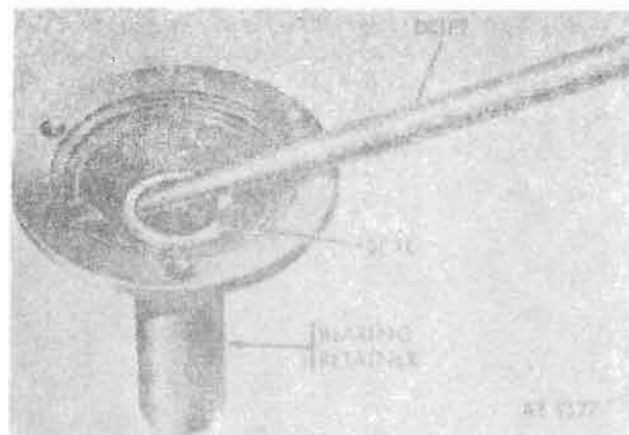

Figure 8-44. Removing retaining seal.
e. Remove input shaft retainer seal (fig. 8-44).